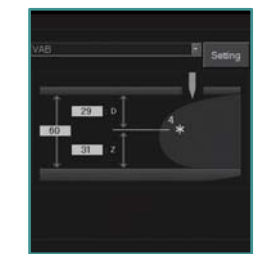

Figure 3
- The position of the target within the breast can be checked, visually, on the displayed diagram (Figure 3).